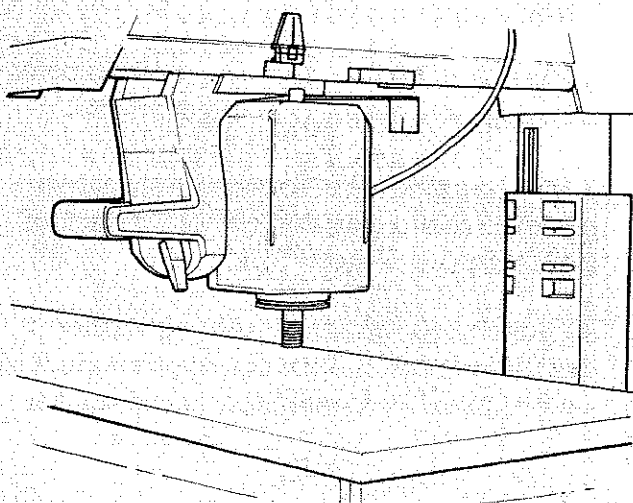

Fig. 53
3. Unlock the *bevel lock*, and turn the *motor* so that the *arbor* is perpendicular to the *table*. (Figure 53).